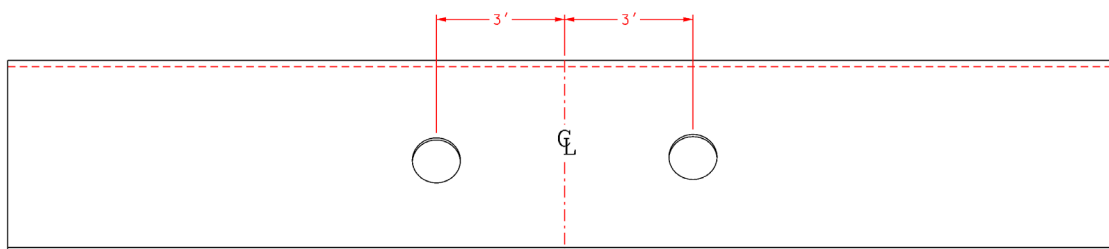
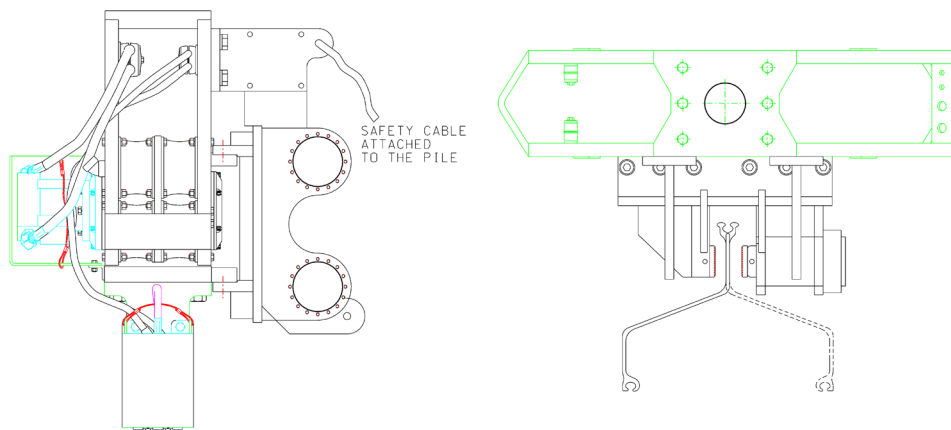

Figure 1
Figure 2
1. First, check that the lifting capacity of the excavator, at the working radius, exceeds the combined weight of the V-2Esc assembly and the pile. Then, lift the pile using an appropriately sized cable between the pad eye on the suspension assembly and the lifting hole in the pile. (Refer to figures 1 and 2). Once the pile is hanging nearly vertical, guide it into the hammer jaws or thread the pile into an already driven pile. Position the jaws on the pile (see figure 2) and close the jaws and start the hammer. The vibration, coupled with the down crowd force of the excavator drives the pile. Do not exceed the down crowd force rating.
2. Cut pile handling holes 2ft. or more above center of the pile on either side of center as required to position pile in jaws as shown in figure 1.
⚠ DANGER The V-2Esc side clamp attachment is designed to handle a single pile with a **MAXIMUM** weight of 2 TONS. Appropriate pile lifting rigging should be supplied by the end user to handle the pile in a safe manner. Attach cable(s) to lifting eye(s) on the hammer to allow safe handling of the pile and placing it in the jaws as shown in figure 2.